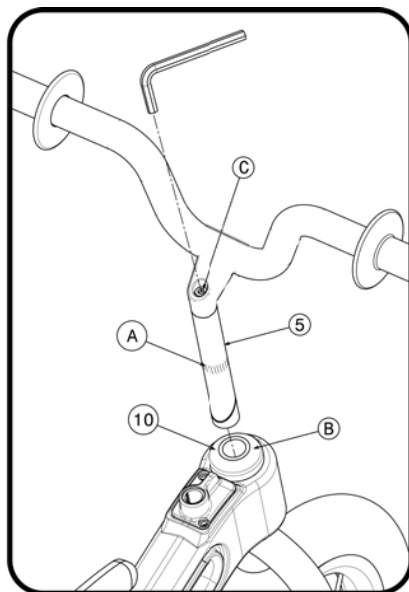

Fig 03
1. Insert the Stem (5) into the fork (fig 03).
3. Tighten the Stem Bolt (C) enough to hold it in position.
4. Align the stem with the front tire and tighten the stem bolt (C) securely to 13 ft-lbs (fig 03).